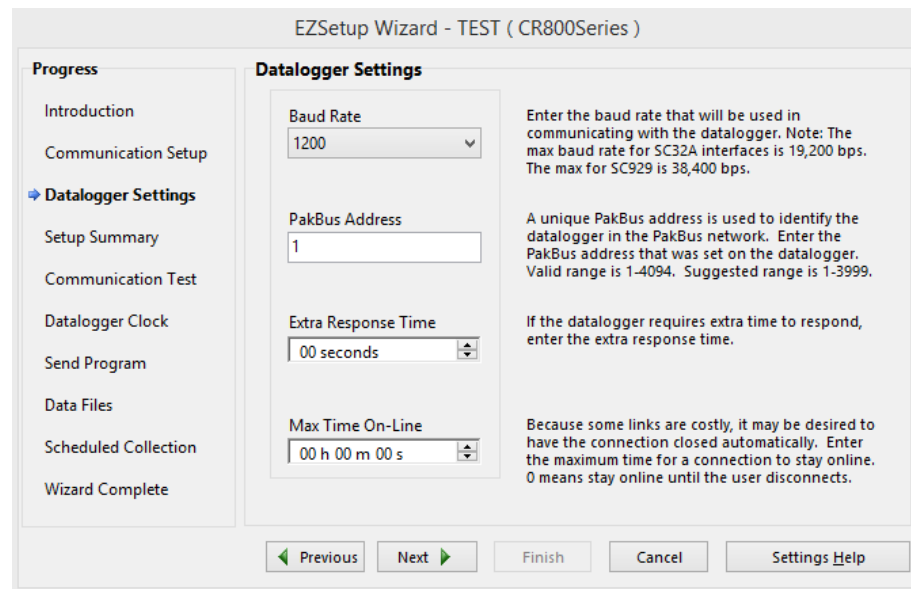

Figure 4.8: 'Data Logger Settings' window.
- Refer to the 'Settings Help' button on the bottom left of the window in **Figure 4.8**.